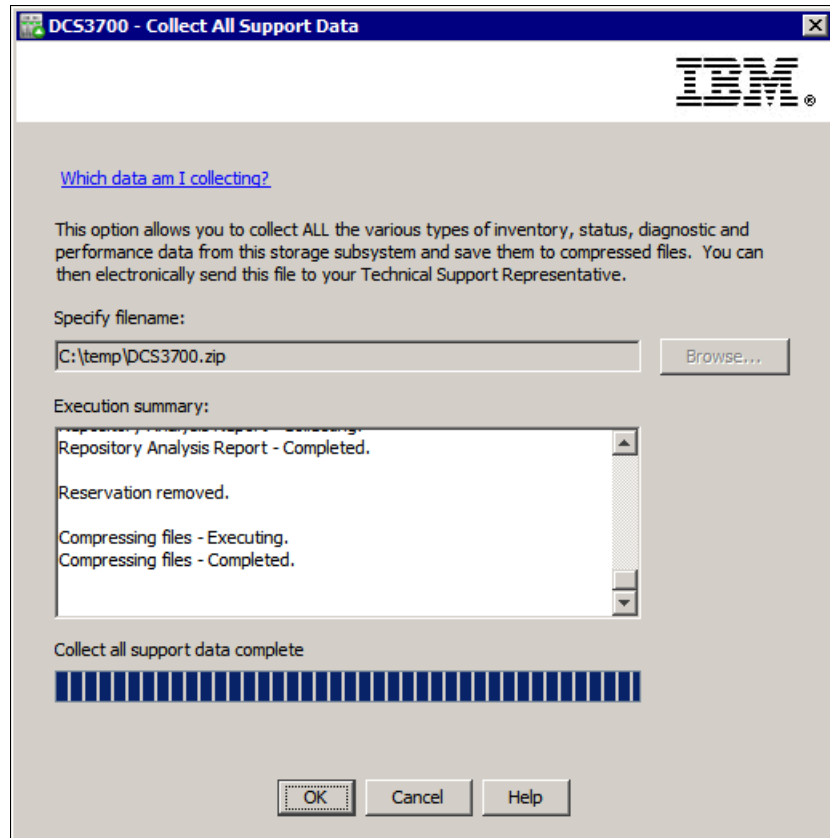

Figure 13-12 Collect All Support Data - save completed
- The window displays a message indicating when the support data is collected and saved to the file that you specified in step 1 on page 394, as shown in Figure 13-12.